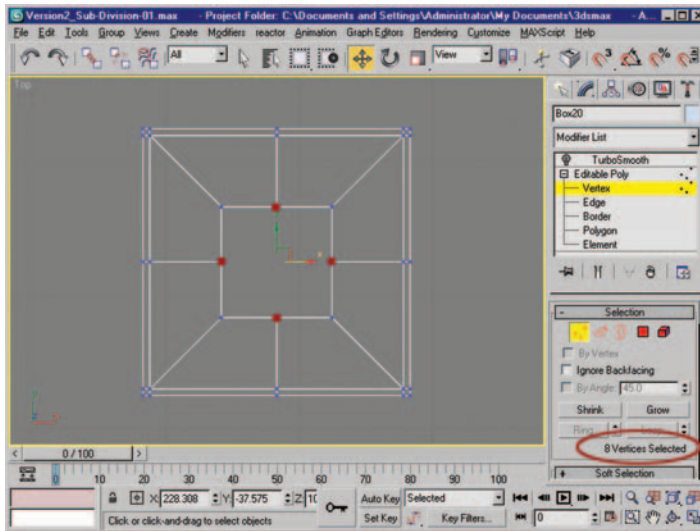

Figure 6.31 Eight vertices selected in top viewport.
8. Go to the top viewport, and select the vertices that make up the new edge loops you just created. The selection will appear as if it is made of four vertices; in actuality it is eight (four at the top, four at the bottom [Figure 6.31]).